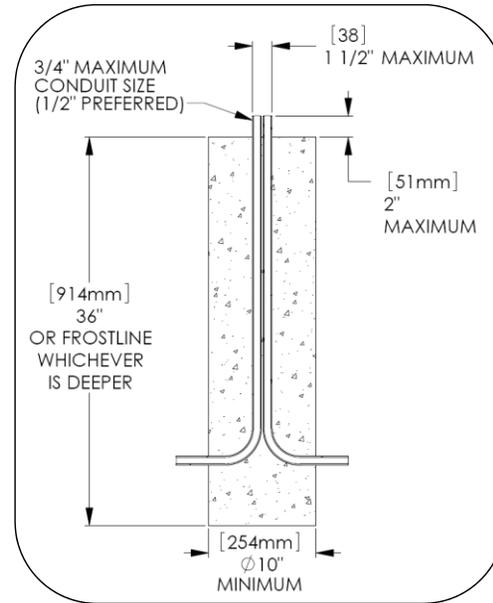
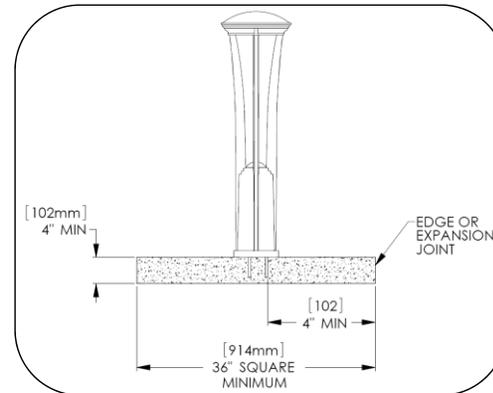

Fig. 1 – Minimum footing recommendation
Fig. 2 – Minimum concrete slab size
1. Prepare footing as required by local codes, see Fig. 1, Fig. 2 and Fig. 3 for recommendations.